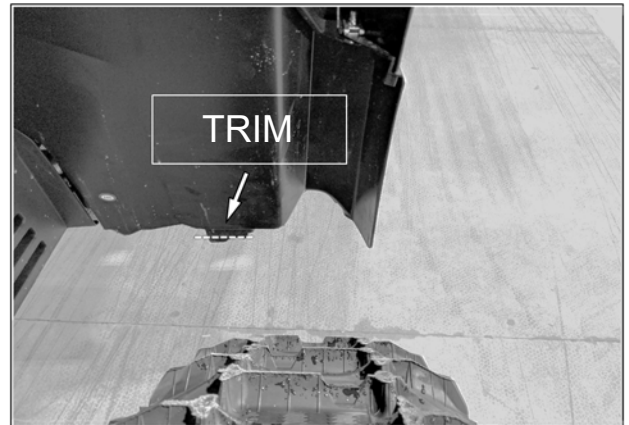

Fig. 29
4. A short piece of sheet metal extending down from footrest support frame could come in contact with front track and should be cut back. Trim it back flush with footrest support frame. Remove burrs. See Fig. 29. Repeat steps on right side.